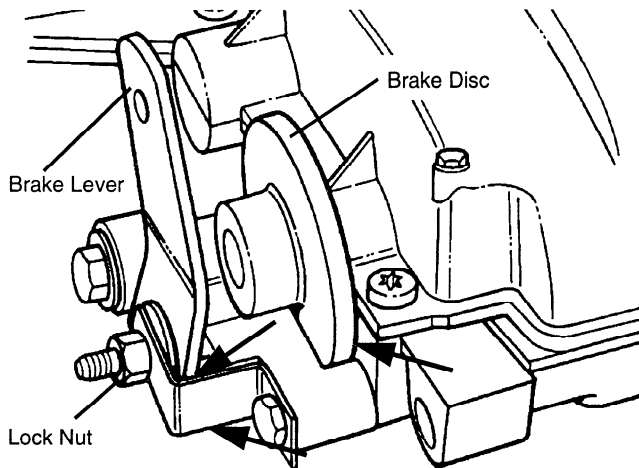

FIG. 37
- Check for brake disc contacting the case and/or brake lever contacting its mounting bracket, top or bottom. (See Fig. 37) If so, replace friction pucks and disc before making any adjustments.